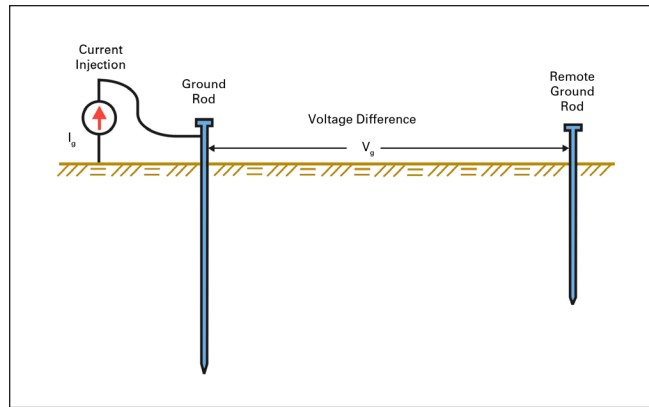
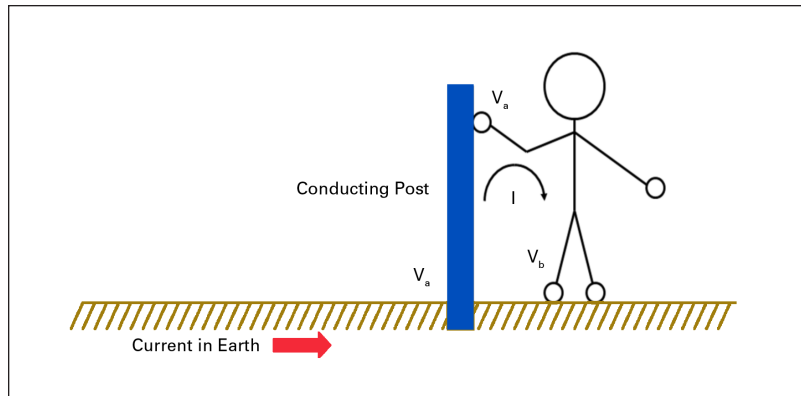

Figure 1. Ground rod voltage
Figure 2. Possible electric current path in the body
The simplest ground electrode is a single driven rod. Because of the finite conductivity of soil, there is a non-zero resistance, called the grounding resistance R_g , between the rod and remote earth.¹⁰ If a current I_g flows into the ground rod for whatever reason, the rod takes a voltage $V_g = I_g R_g$, which can be measured by connecting a voltmeter between the ground rod with the injected current and a remote ground rod as shown in Figure 1. (This simplified discussion assumes no induced voltage in the voltmeter connecting leads.)
The mechanism of electric current flow in the body is illustrated in Figure 2. Here, a current flowing in the earth causes the voltage of a conducting post mounted in the ground and touched by a person to be different from the point on the earth touched by the person's foot. Current flows in the circuit consisting of the earth, the post, the connections between the person and ground and post, and the person. This creates the possibility of sufficient current flow to be perceptible. The current in the earth in Figure 2 could also produce an electric current in the person without their touching the post if some of it flows up one leg and down the other. The post could also have a different
The voltage differences illustrated in Figure 1 and Figure 2 can appear in several ways:
- Touch potential (voltage). An example of a touch potential for the situation shown in Figure 2 is a person standing on the earth touching a metal fence. If there is current flowing in the fence ground, the fence would have a different voltage from the earth the person is standing on. Another example is when a person touches two different supposedly grounded objects that are not bonded together and are at different voltages.
Because the neutral wire is connected to earth at numerous locations, current flowing in the neutral circuit divides between the neutral wire and earth with some current flowing in the wire and some in the earth. This splitting of the current through different paths results in current flowing to earth in the ground rods or other ground connections. Current flowing in the various ground connections causes the neutral voltage not to be exactly zero at a customer's service entrance, which is the location where the user takes electricity from the utility including the main circuit breaker panel board (Figure 6). This neutral voltage may appear in ways similar to that shown in Figure 1.